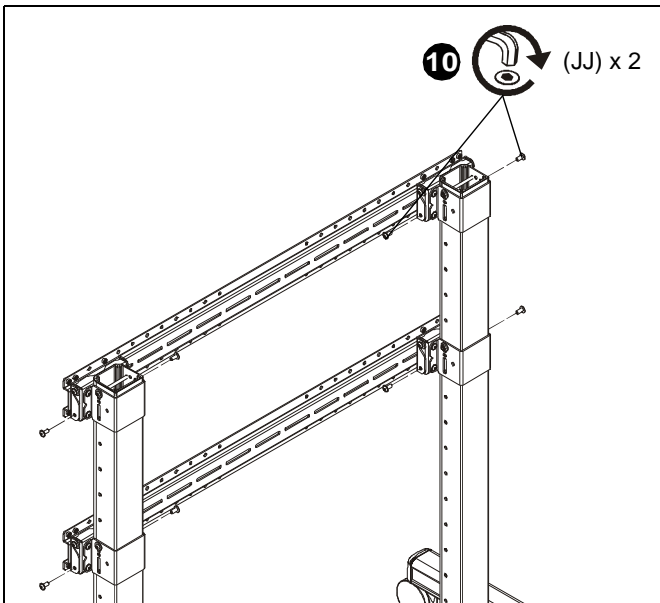

Figure 8
- Install two 5/16-18 x 3/4" button head flange screws (JJ) into the lower holes on each quick connect bracket (QQ) and quick connect base (C) to secure wall plates (X). (See Figure 8)
- Tighten all 5/16-18 x 3/4" button head flange screws (JJ).